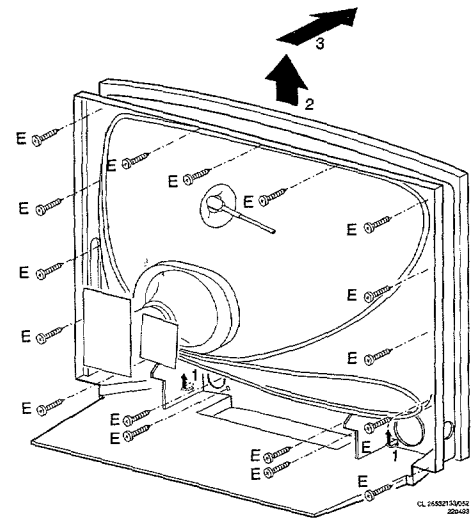

Fig.7
5. Removing the mask from FL2 (fig.7)